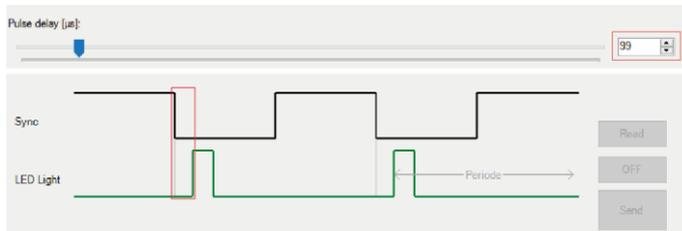

Figure 51: Pulse delay
- Adjust pulse delay Pulse delay [μs] (Figure 51, Page 60).